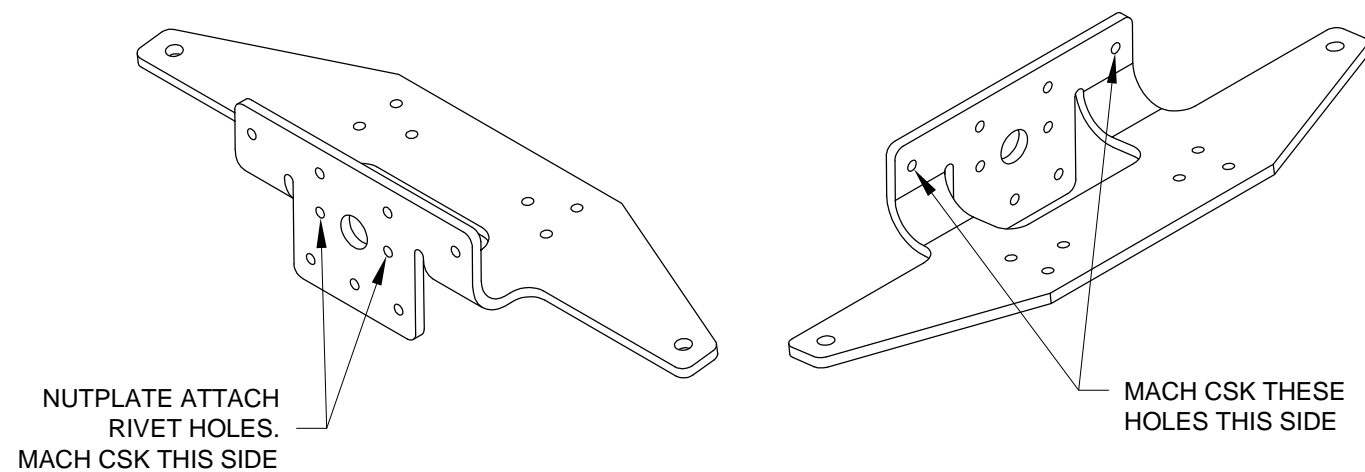

FIGURE 2: R-1005 RUDDER HORN
Step 2: Finish all the edges of the R-1005 Rudder Horn. Final-Drill the two nutplate attachment rivet holes, shown in Figure 2, using a #30 drill. Countersink these holes, as well as the other two holes shown in the figure, for 1/8" rivets.